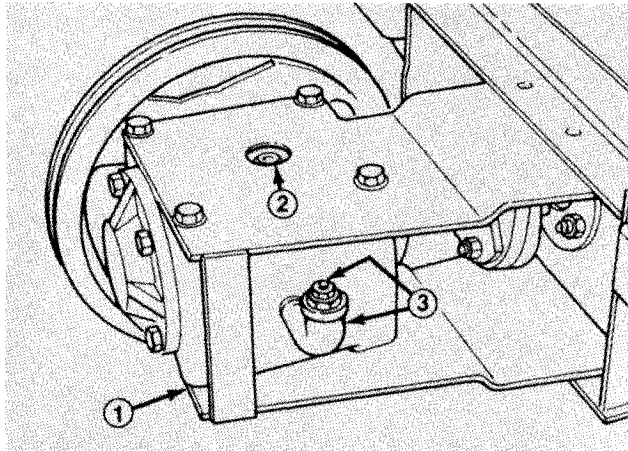

Figure 12
2. Place a drain pan under gear case (Fig. 12).
3. Remove drain plug on bottom of gear case, allowing oil to drain into pan (Fig. 12). Reinstall plug after all oil has drained.
4. Clean area around gear box filler plug on top of gear box (Fig. 12) to prevent contaminants from entering gear box.